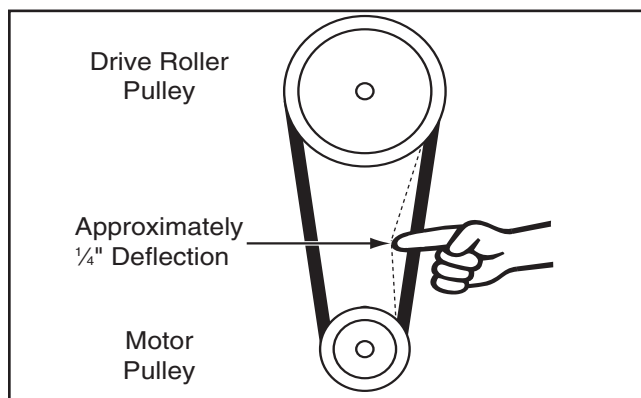

Figure 57. Correct belt deflection when properly tensioned.
10. Press belt with moderate pressure in center to check tension. Belt is correctly tensioned when there is approximately $\frac{1}{4}$ " deflection when pushed (see **Figure 57**).